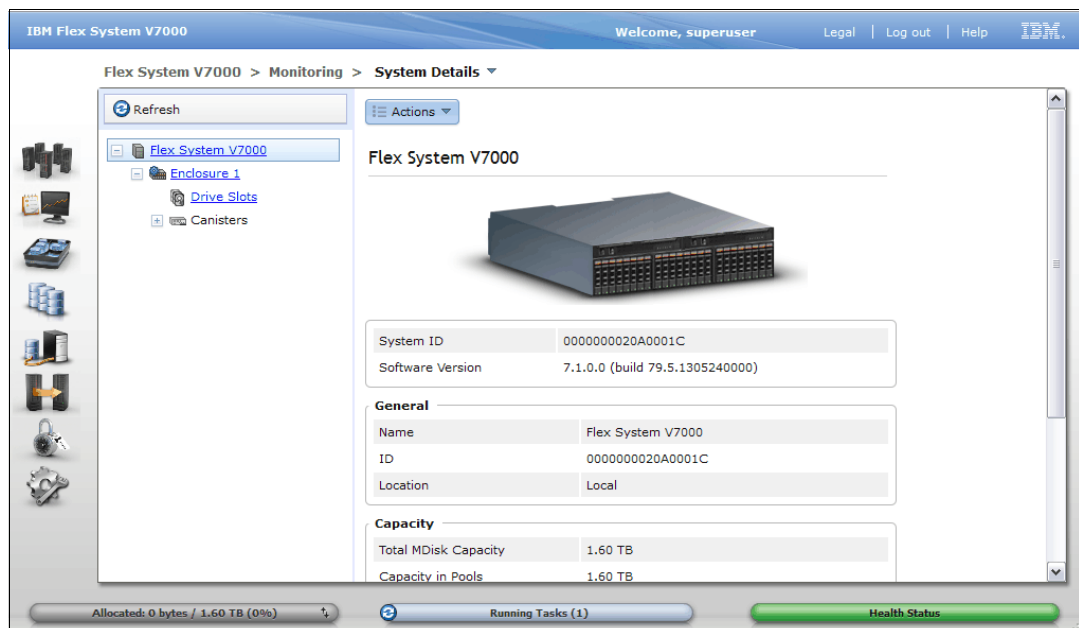

Figure 4-32 System details view in management GUI
10. IBM Flex System V7000 Storage Node initial configuration is complete and the cluster is up and running as shown in Figure 4-32.